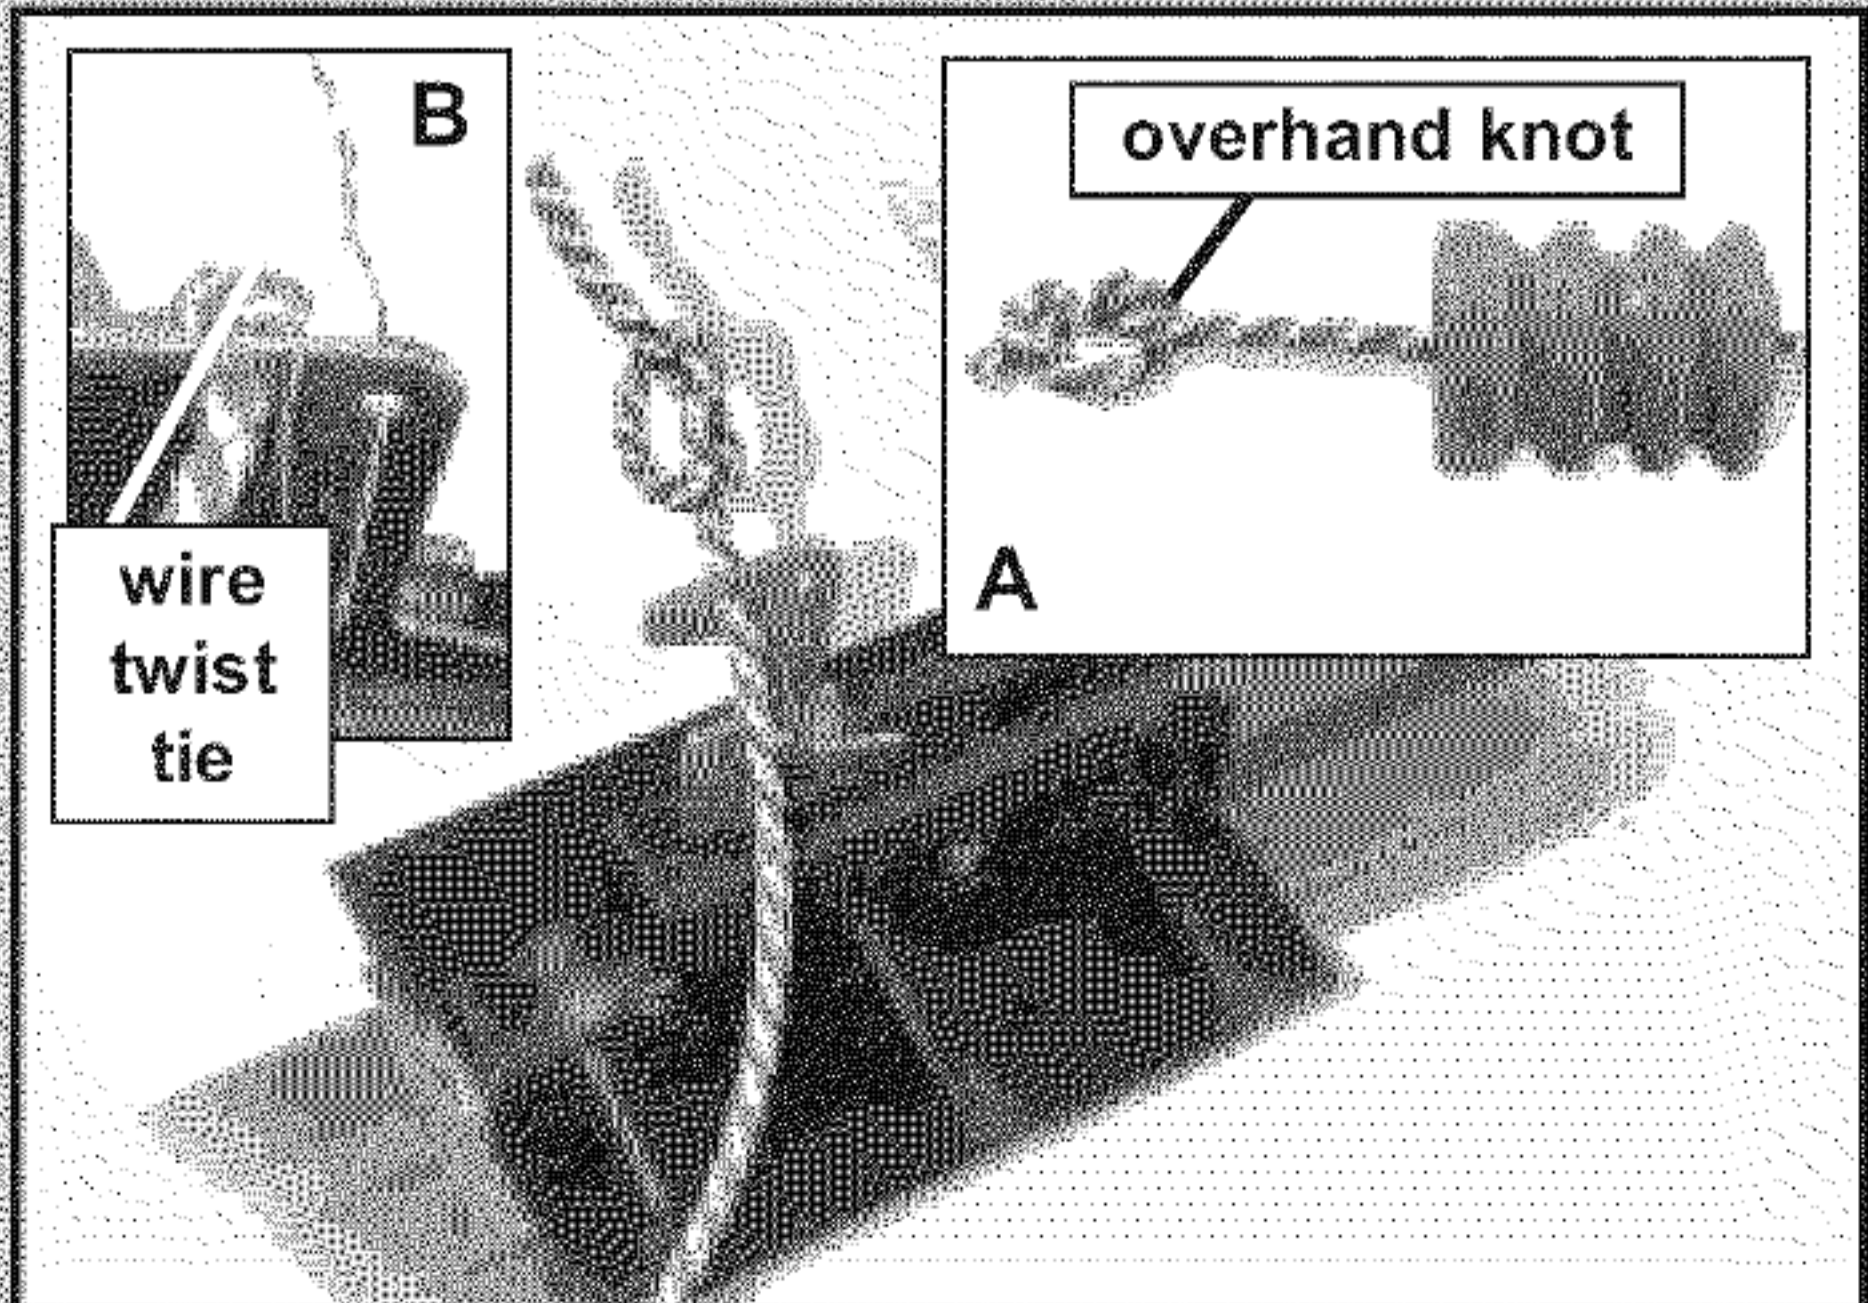

FIG. 1-8 Attach emergency release cord & tag.
- Tie overhand knot in 1 end of cord. Tighten knot. (Fig. 1-8 inset A).
- Slip through hole in emergency release lever (Fig. 1-8).
- Attach to hole in emergency release using metal twist tie on tag. (Fig. 1-8 inset B).